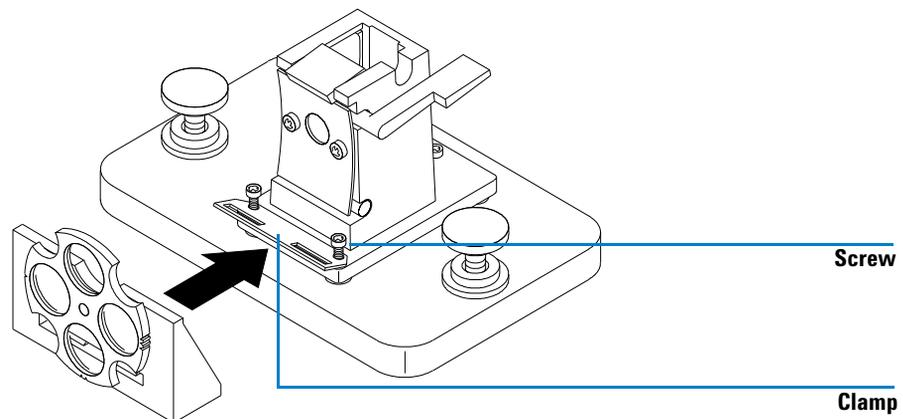

Figure 29 Installing the Optical Filter Wheel Assembly
- 2 Remove the two screws shown in Figure 29.
- 3 Position the filter wheel assembly clamp as shown in Figure 29. Replace the two screws but do not tighten them.